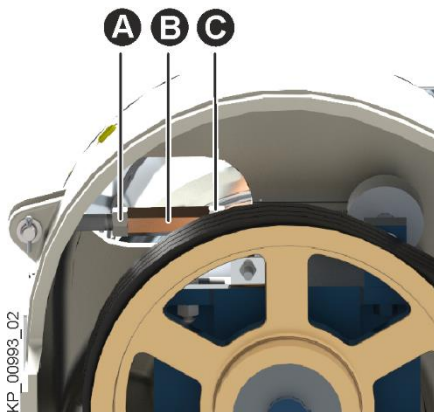

Fig. 64: Separating the belt tensioner
- Loosen the lock nuts (Fig. 64/A) of the belt tensioner.
- Loosen the turnbuckle sleeve (Fig. 64/B) until the belt tensioner is separated.
- Mount the belt tensioner (Fig. 64) and tension the V-belts.